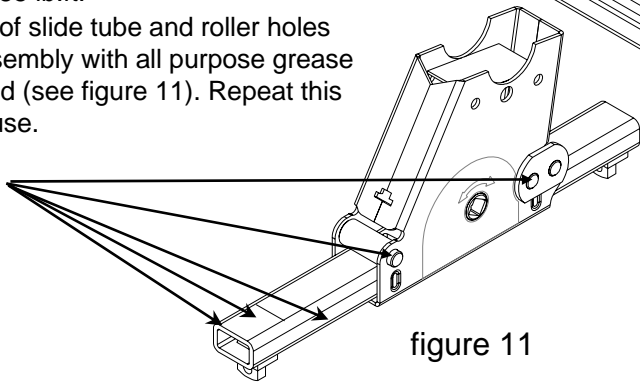

figure 11
7. Coat top & side surfaces of slide tube and roller holes (6 places) in each slider assembly with all purpose grease or teflon lube, use as needed (see figure 11). Repeat this application monthly during use.